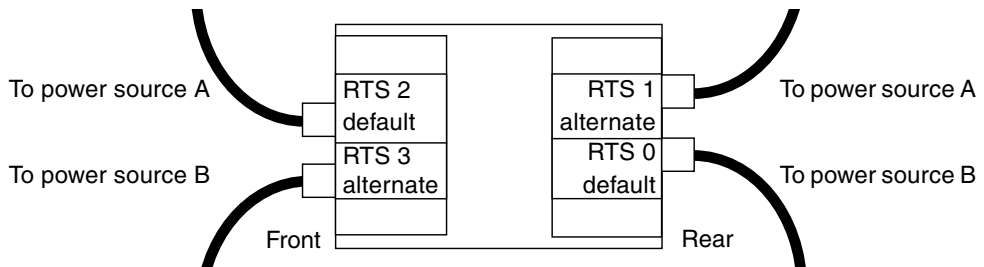

FIGURE A-6 Two RTU Assemblies and Two Independent AC Power Sources
- In configurations with two RTU assemblies and two independent AC power sources there will be four cables to connect, two on the front, and two on the rear of the system (FIGURE A-6).